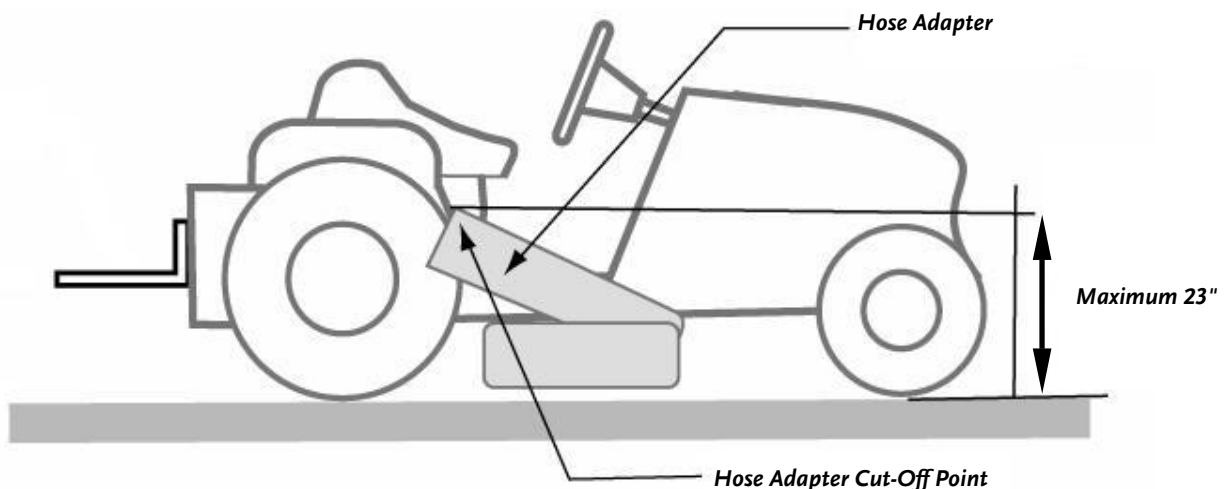

Figure 14
2. Mark the distance of approximately 23" from the ground to the top surface of your Lawn Deck Adapter Exit Tube (**Figure 14**).
3. Remove the Lawn Deck Adapter from your Lawn Tractor and using a saw, cut the Exit Tube of the Lawn Deck Adapter at 90° (**Figure 14**).